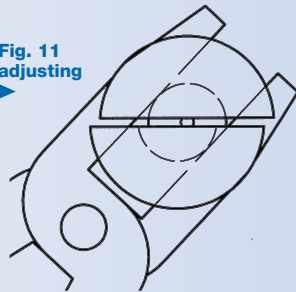
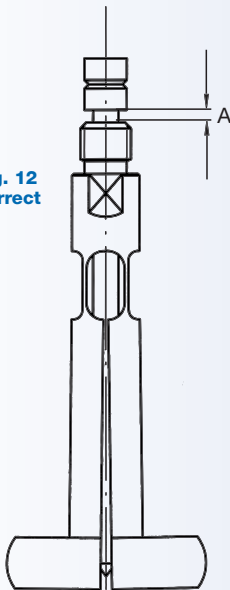
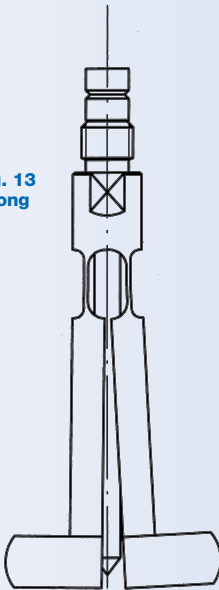

Fig. 12
Fig. 13
Fig. 14
#### 2. Axial bending: (Fig. 12 - 15)
a) Distance "A" (Fig. 12) of probe-head to probe-threading should be as follows when needle is loosely introduced:
b) Probe legs should obviously be symmetrical to probe axis. Fig. 12 and 15 = correct, Fig. 13 = wrong. Probe legs that are bent (Fig. 13) or bent together (Fig. 14) can be adjusted by careful bending of the legs. For this probe has to be held at threaded piece.